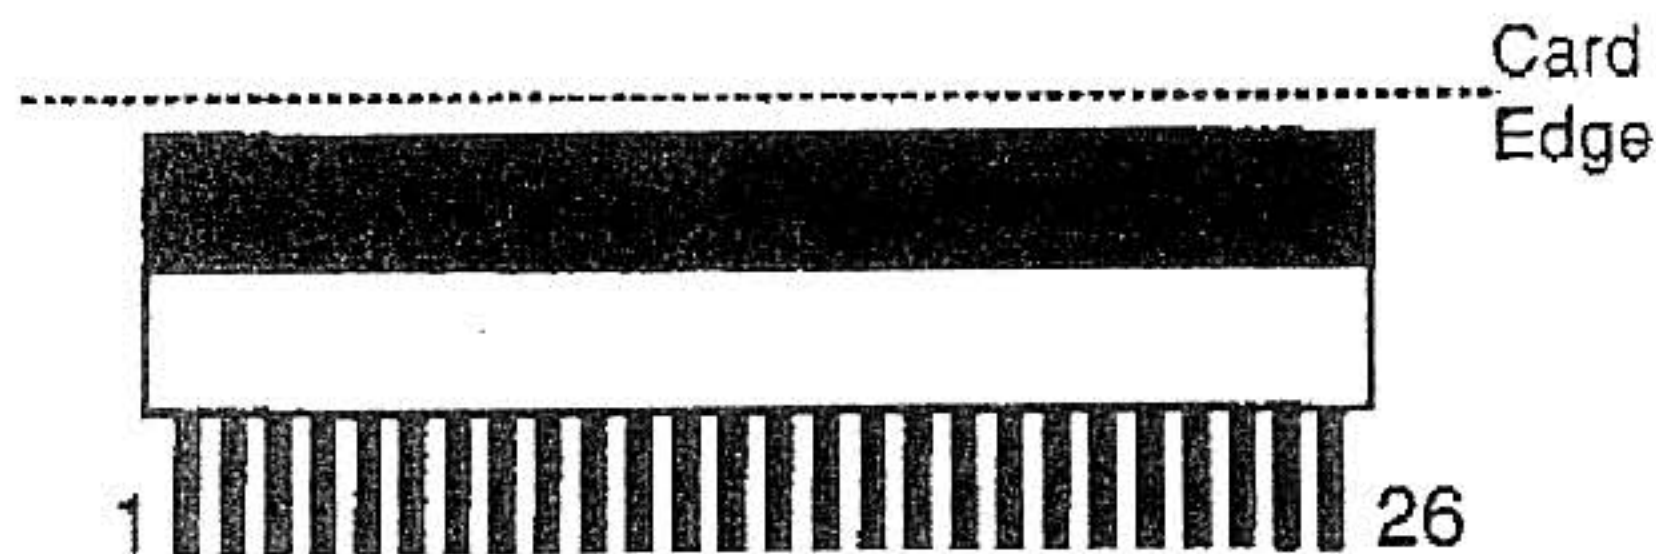
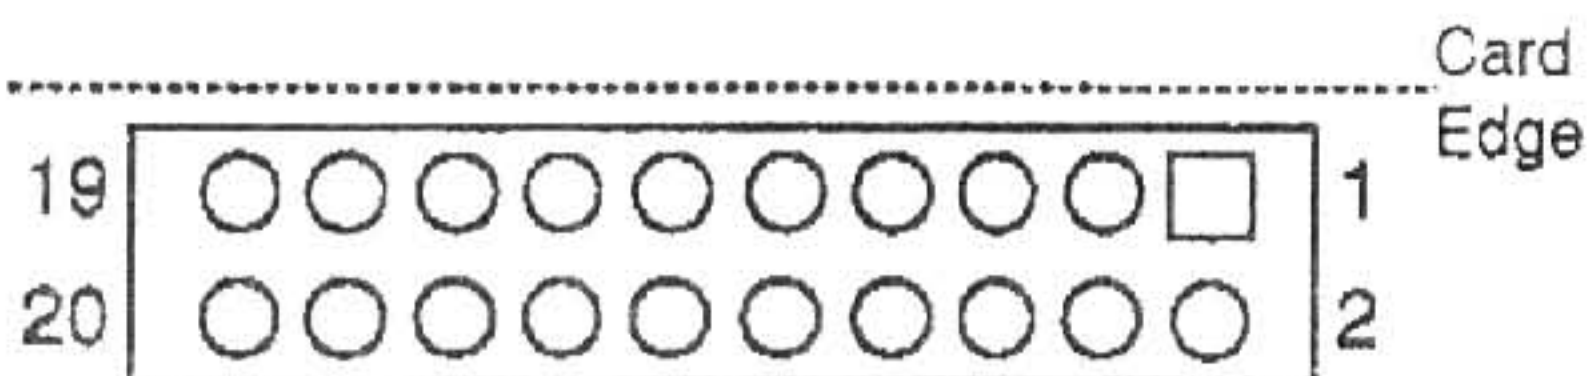

Figure 3-1. ZIF Connector (J2) Pin1 Reference Location
Figure 3-2. 2x10 Pin Field Connector (J2) Pin 1 Reference Location
**3.2.2 OEM Interface.** A pinout description for the ZIF interface connector is provided in Table III-2. Figure 3-1 diagrams the pin 1 reference location for this connector. A pinout description for the 2x10 pin field connector is provided in Table III-3. Figure 3-2 diagrams the pin 1 reference location for this connector.